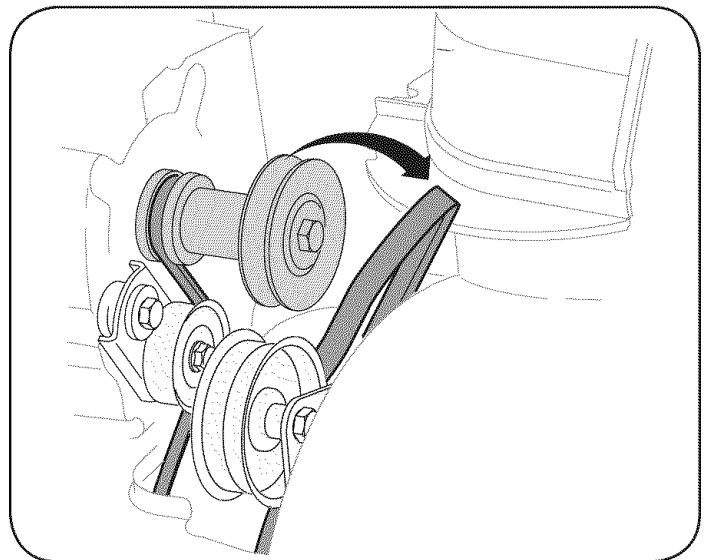

Figure 22
3. Roll the auger belt off the engine pulley. See Figure 22.